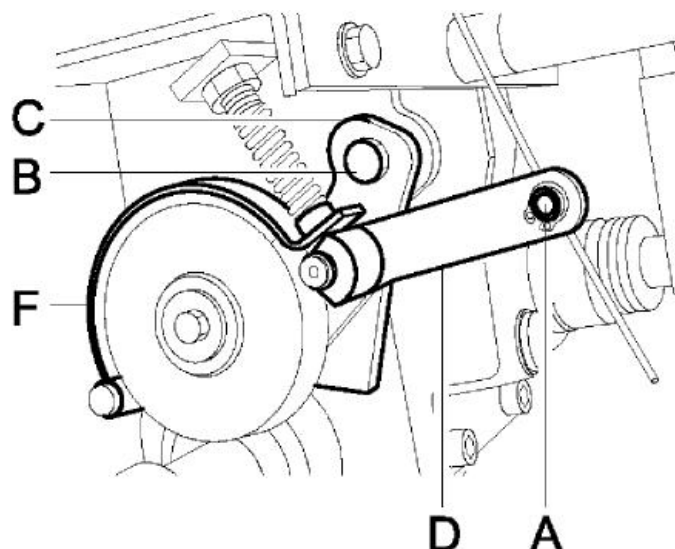

Figure 7
- using the brake cable clamp (fig 7 pos. A)
- loose the M10 nut (fig. 7 pos. B)